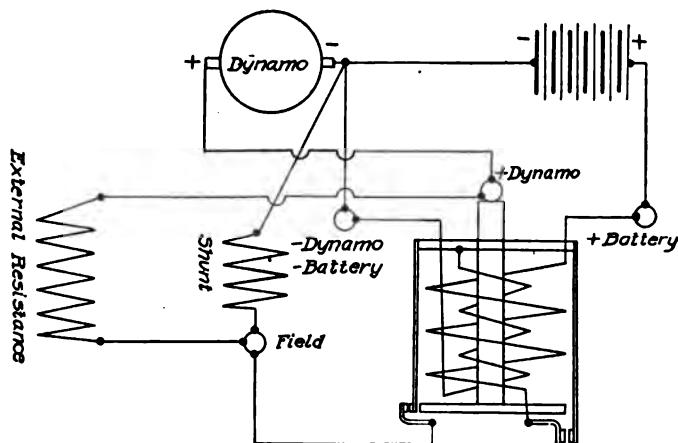

Fig. 275. Connections for Dyneto Regulator Cut-Out
**Regulation.** Regulation is effected by means of a vibrating regulator, which is combined with the battery cut-out. This cuts in at a speed equivalent to 10 miles per hour, and the generator reaches its maximum normal output of 10 to 12 amperes between 12 and 15 miles per hour. The regulator does not become operative until the current flow increases to 10 to 12 amperes, at which point it is held regardless of the speed. The details of the combined regulator and cut-out are shown in Fig. 274, while all the connections are shown in the diagram, Fig. 275. As soon as the dynamo runs fast enough to cause it to generate, a portion of the current passes through the